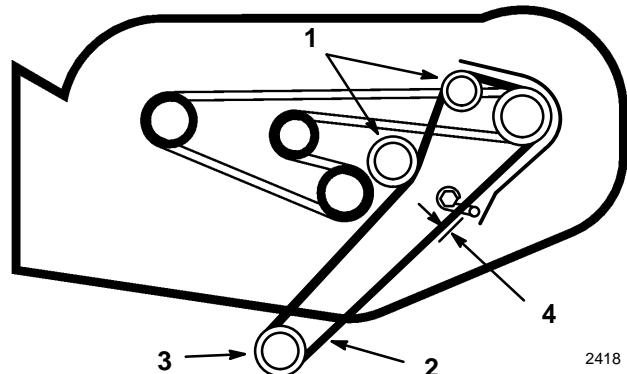

Figure 9
- Pull on drive belt and rotate onto engine pulley to install (Fig. 9).
- Adjust belt guide so distance between belt and guide is 1/8" (4 mm) (Fig. 9).